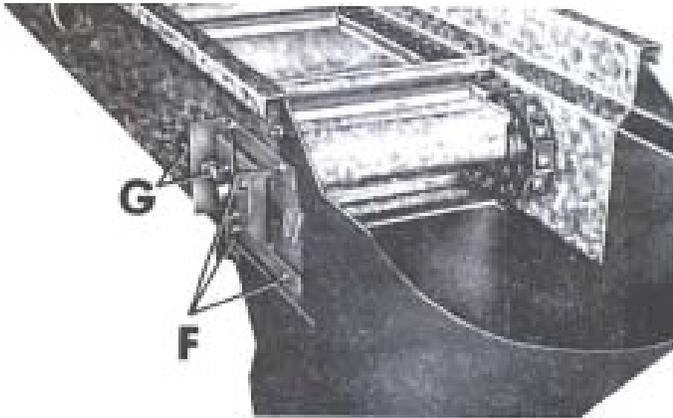
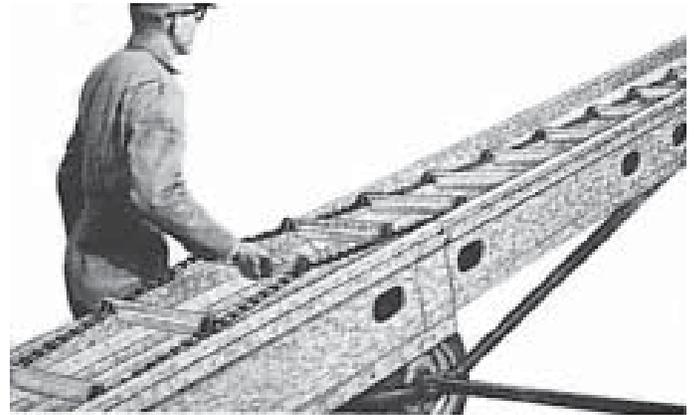

Figure 8
Figure 9
Figs. 8 & 9 - To adjust the conveyor chain, loosen nuts “F” (Fig. 8) on both sides of head section. Adjust nuts “G” (both sides) on tightener bolts to the point that when the conveyor is lifted, as shown in Fig. 9, the chain will come flush with the top of elevator side. Note: Stand just ahead of boot section when doing this.
- b. Adjust nuts "G" (both sides) on tightener bolts to the point that when the conveyor is lifted, as shown in Fig. 9, page 7, the chain will come flush with the top of elevator side.